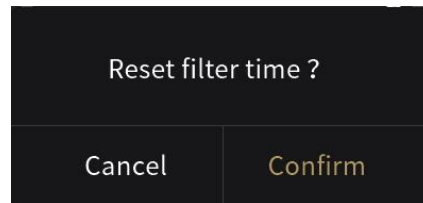

Fig.2.6.4
The service life of the filter set by the parameter configuration. When the filter time reaches to the parameter setting value, the alarm state can be issued through the bus, and the remaining filter timer value can be displayed to be 0%. When touch icon⑦, the filter time can be reset, as shown in Fig.2.6.4 below. After clicking “Confirm”, the filter timer value can be reset to 100%.